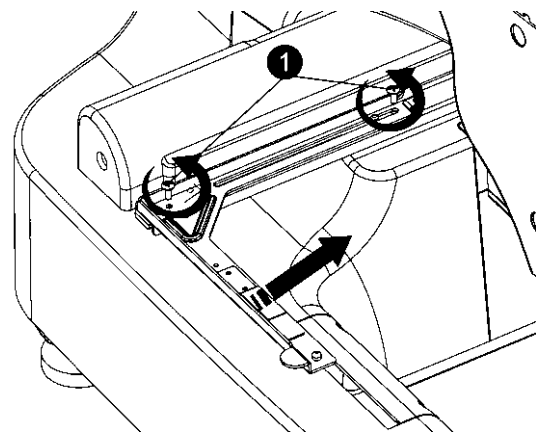

Figure 80
2. In order to adjust the flat frame support to the frame embroidery hoop, loosen the two (2) screws by turning them counterclockwise. See No. 1 in Figure 80.
3. Adjust the width of the flat frame support to the embroidery hoop by pushing it inward or outward. See arrow in Figure 80.
4. Retighten the two (2) screws by turning them clockwise in order to secure the flat frame support.